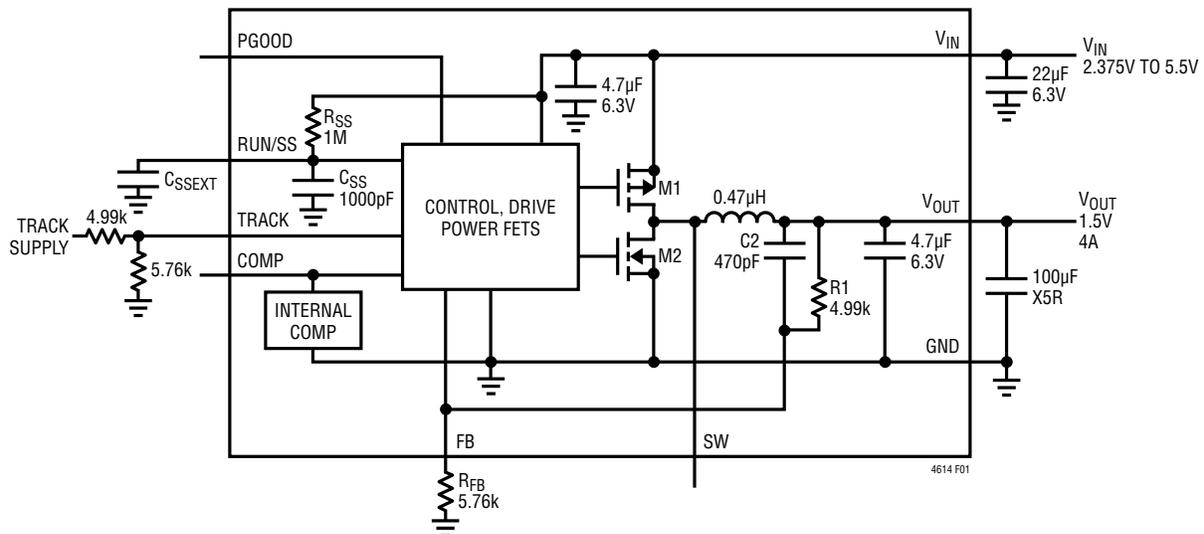

Figure 1. Simplified LTM4614 Block Diagram of Each Switching Regulator Channel
**ELECTRICAL CHARACTERISTICS** The ● denotes the specifications which apply over the full internal operating temperature range (Note 2), otherwise specifications are at  $T_A = 25^\circ\text{C}$ .  $V_{IN} = 5V$  unless otherwise noted. Refer to Figure 1. Specified as each channel (Note 5).
The ● denotes the specifications which apply over the full internal operating temperature range (Note 2), otherwise specifications are at  $T_A = 25^\circ\text{C}$ .  $V_{IN} = 5\text{V}$  unless otherwise noted. Refer to Figure 1. Specified as each channel (Note 5).
## DECOUPLING REQUIREMENTS $T_A = 25^\circ\text{C}$ . Use Figure 1 configuration for each channel.
where  $R_{\text{SS}}$  and  $C_{\text{SS}}$  are shown in the Block Diagram of Figure 1, and 1.8V is the soft-start upper range. The soft-start function can also be used to control the output ramp-up time, so that another regulator can be easily tracked to it. To turn off the module while  $V_{\text{IN}}$  remains active, the RUN/SS pin should be pulled low with a falling edge  $\leq 1\mu$ s to ensure the device does not transition slowly through the internal undervoltage lockout threshold.